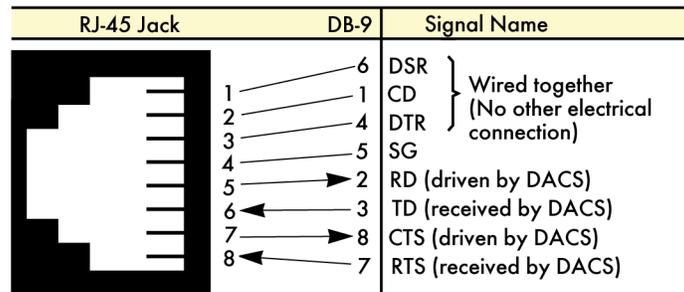

Figure 6. DB-9-to-RJ-45 cable diagram
Install the supplied RJ-45-to-RJ-45 cable between the (2) DB9-RJ45 adapter and the RS-232 port (see figure 2 on page 15) and an open serial port on your computer. If you need to assemble your own cable, refer to the pinout diagram in figure 6.